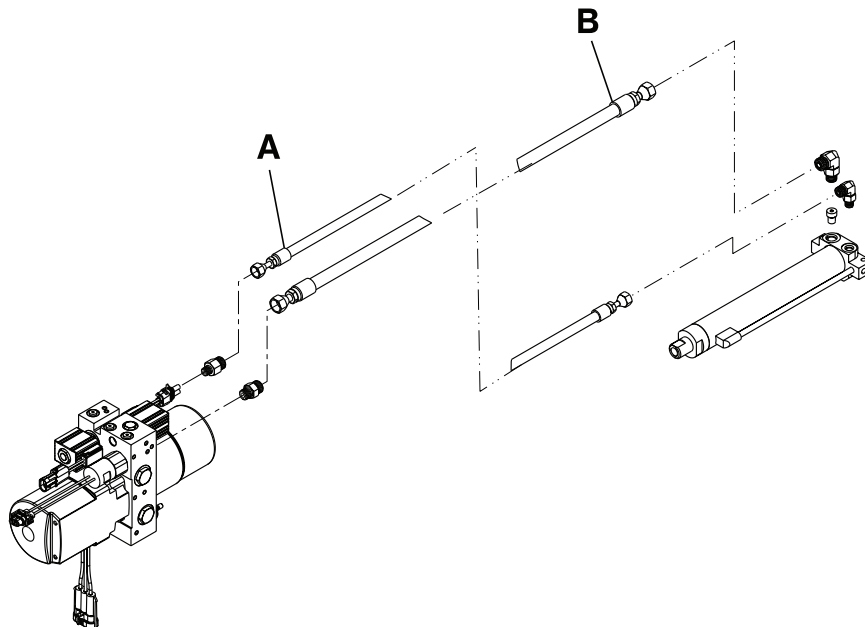

Figure 21: Hydraulic hose replacement
3. Using a 11/16" combination wrench and a 13/16" combination wrenches, remove the damaged hose (A or B). (Figure 21 on page 54).